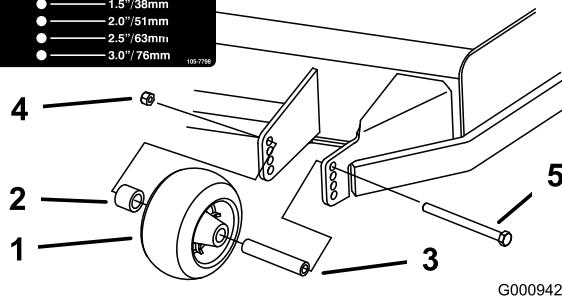
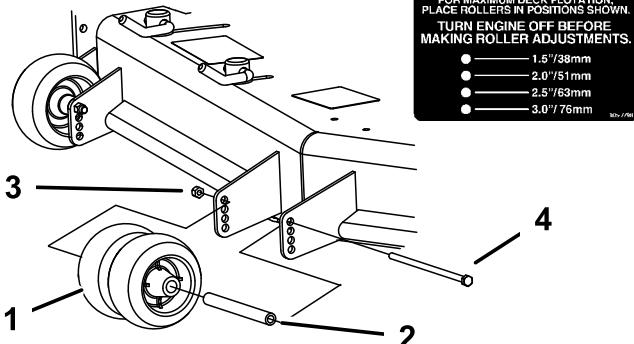

Figure 19
Figure 20
3. After adjusting the height-of-cut, adjust the rollers by removing the flange nut, bushing, spacer, and bolt (Figure 19, Figure 20 and Figure 21 ).
**Note:** The two middle rollers will not have a spacer (Figure 20).
5. Install the flange nut bushing, spacer, and bolt. Torque to 40-45 ft-lb (54-61 N-m) (Figure 19, Figure 20 and Figure 21 ).